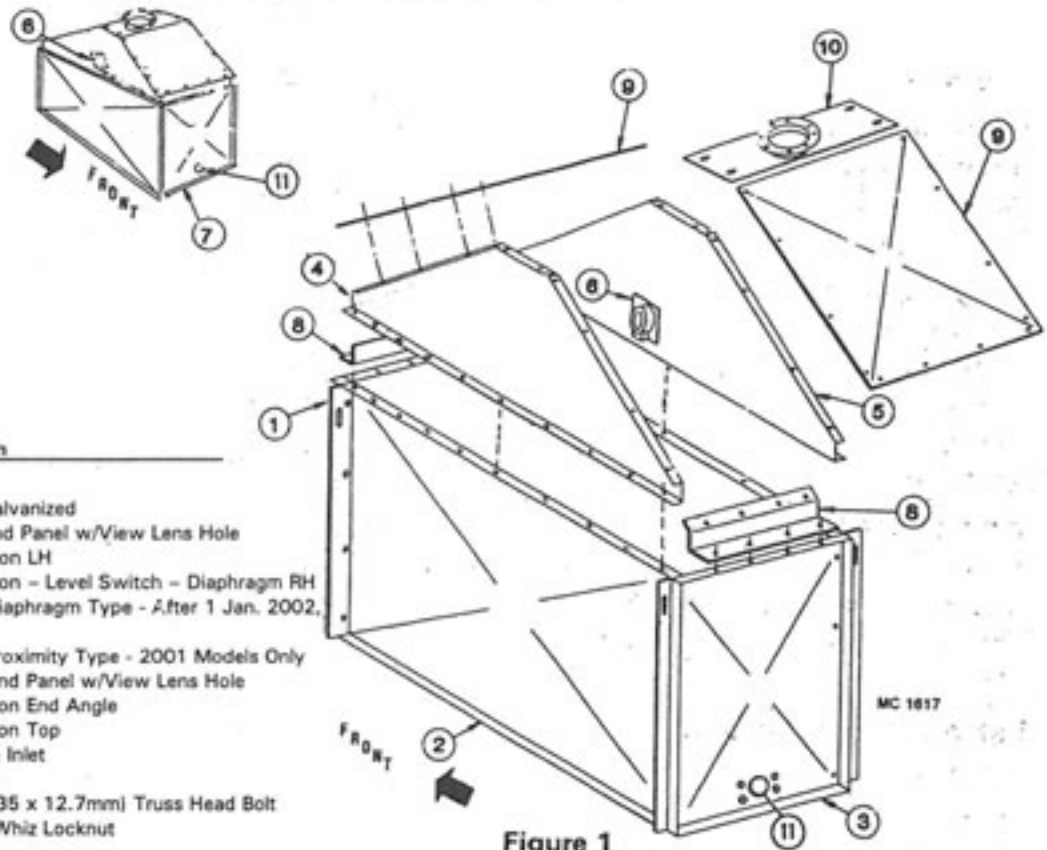

Figure 1
Assembly of 370EM Wet Grain Hopper and Level Switch (See Figure 1)
1. Bolt the Hopper Sides and End Panels together with 1/4"-16 x 1/2" (9.5 x 19mm) capscrews and flanged whiz locknuts (#0018210 and 0008168). Be sure to place (1) #1293412 Lifting Bar at each end of the Hopper Sides so that there will be (1) bar at each corner of the Hopper. See Figure 1.
2. Bolt the Hopper Extensions #1244777 LH and #1292849 RH to the Hopper Sides with 1/4"-16 x 3/4" (9.5 x 19mm) washer head hex bolts and whiz locknuts. See Figure 1.
4. Bolt the (2) Hopper Extension Top Panels #1244775 to the sloping flanges of the hopper extensions with the same bolts and nuts used in #2.
capscrews, flatwashers, springs and two-way locknuts as shown in Figure 1. Use the end holes and two middle holes only. One (1) flatwasher is to be placed under the bolt head, one (1) at the top of the spring and one (1) at the bottom of the spring next to the locknut. These bolt assemblies are to act as a hinge so that the hopper cover can be lifted by just removing the $\frac{3}{8}$ -16 x $\frac{3}{4}$ " (9.5 x 19mm) capscrews, flatwashers and whiz nuts on the right side of the covers.